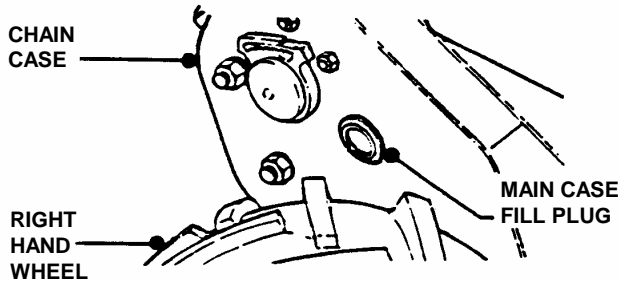

FIGURE 10
3.3.2. ADD LUBRICATION TO CHAIN CASE: To add grease, remove the filler plug located just forward of the pulley shaft on the right hand side. See Figure 10. Add Snapper Part No. 2-9577 Benalene 900 grease (4 oz. Bottle) as needed to bring level up to bottom edge of the check plug opening. The total capacity of the case is about 48 ounces. **DO NOT** exceed this amount. Reinstall check plugs after checking. **NOTE:** Also available Snapper Part No. 2-9296 Benalene 900 grease (32 oz. Bottle).